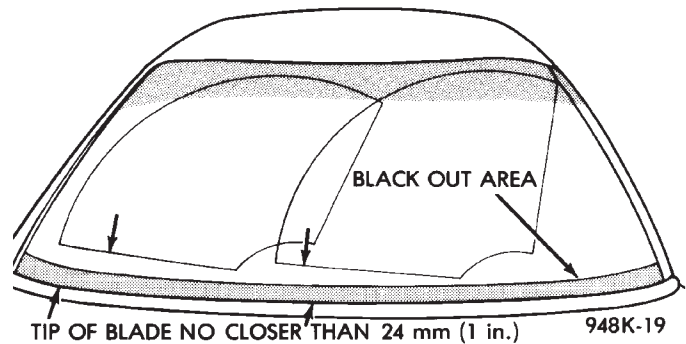

Fig. 4 Arm Adjustment
(1) Cycle the wiper motor into the PARK position.
(2) Check the tips of the blades in blackout area. From the bottom edge of the windshield to the blade should be no closer than 24 mm (1 in.) (Fig. 4).